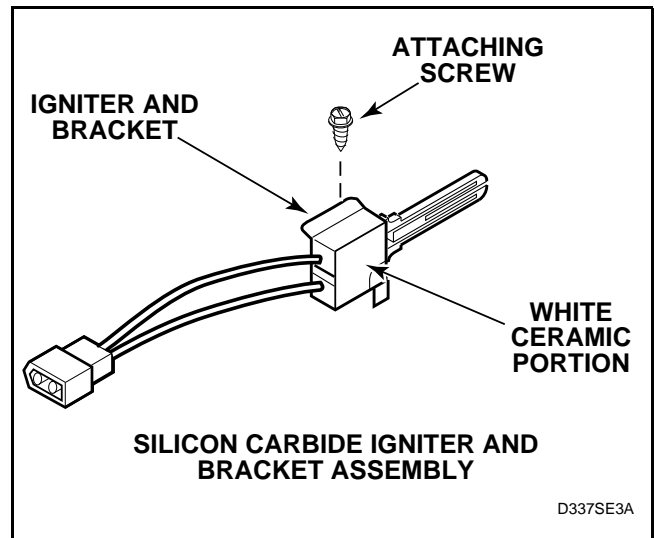

Figure 14
- f. **Silicon Carbide Igniter** – meter should read between 45 – 200 Ohms. Refer to *Figure 14*.